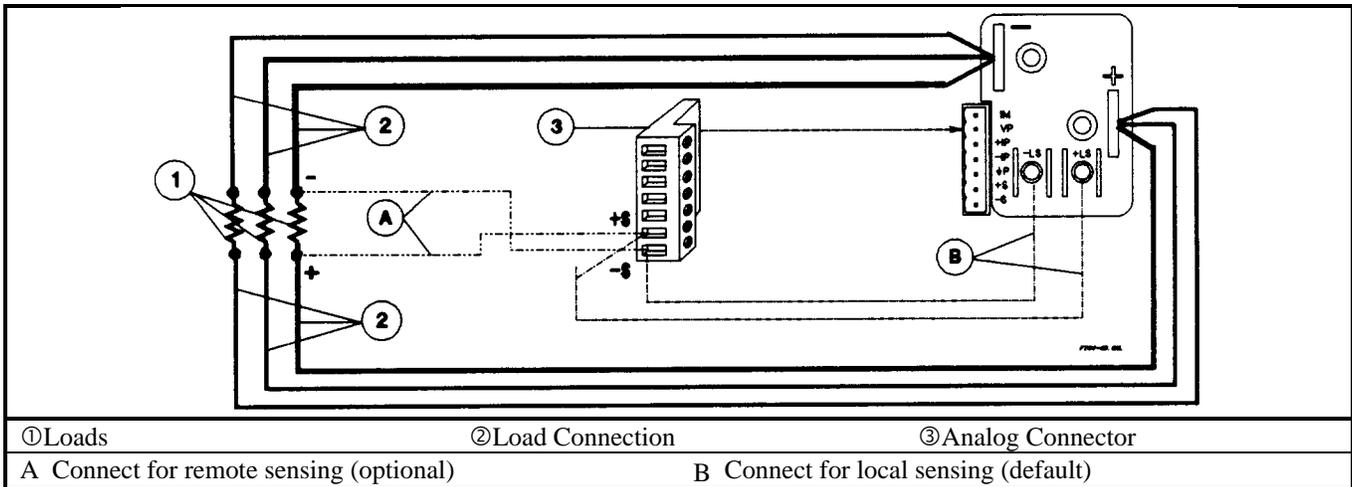

Figure 4-4d. Series 667xA Multiple Load Connection (Remote Sensing Optional)
**Connecting One Power Supply To Multiple Loads (Figure 4-4d)**
Figure 4-4d shows how to connect a single power supply to more than one load. When connecting multiple loads to the power supply with local sensing, connect each load to the output bus bars with separate connecting wires. This minimizes mutual coupling effects and takes full advantage of the supply's low output impedance. Keep each pair of load wires as short as possible and twist or bundle them to reduce lead inductance and noise pickup.